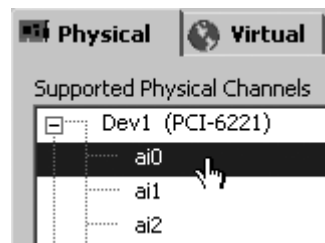

Figure 11.7
4. Select the Physical Channel “ai0,” and then press the **Finish** button (see Figure 11.7).